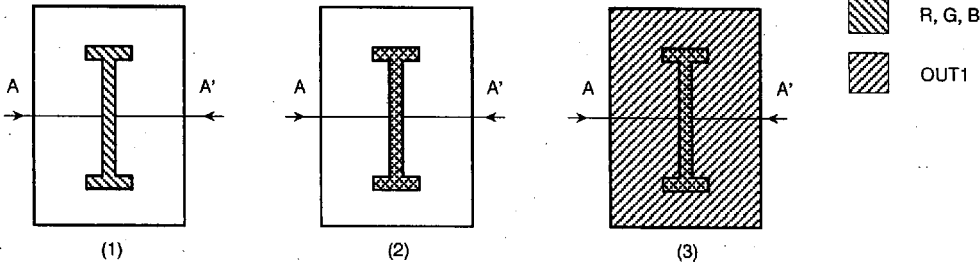

Fig. 58 Switch between character output and character area blank output
Whether the OUT1 pin outputs or not is switched by bit 3 of the attribute code. When the OUT1 pin outputs, which of the character output or character area OUT1 blank output is switched for each block by the OUT control register (address 021016) (refer to Figure 58). However, when the solid space auto-generating function is turned on, the character area blank output may be selected regardless of the above bit. For the solid space auto-generating function, refer to (7) Automatic Solid Space Function.